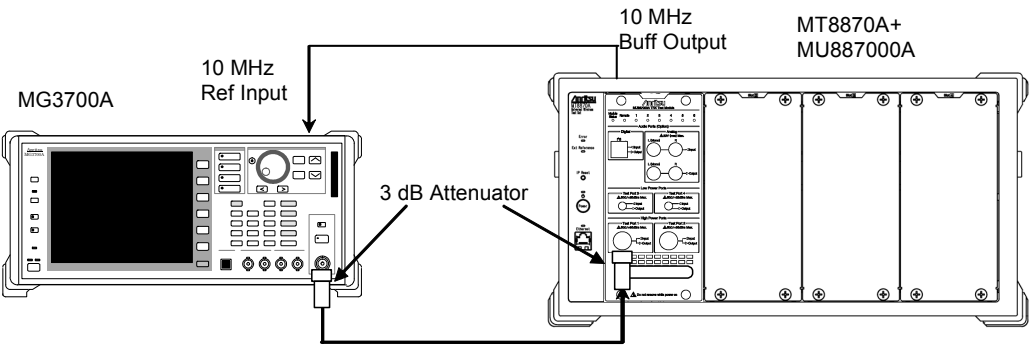

Figure 6.3.6-1 Setup for Measuring Tx Power Measurement Linearity
1. Setup the instruments as shown in Figure 6.3.6-1.